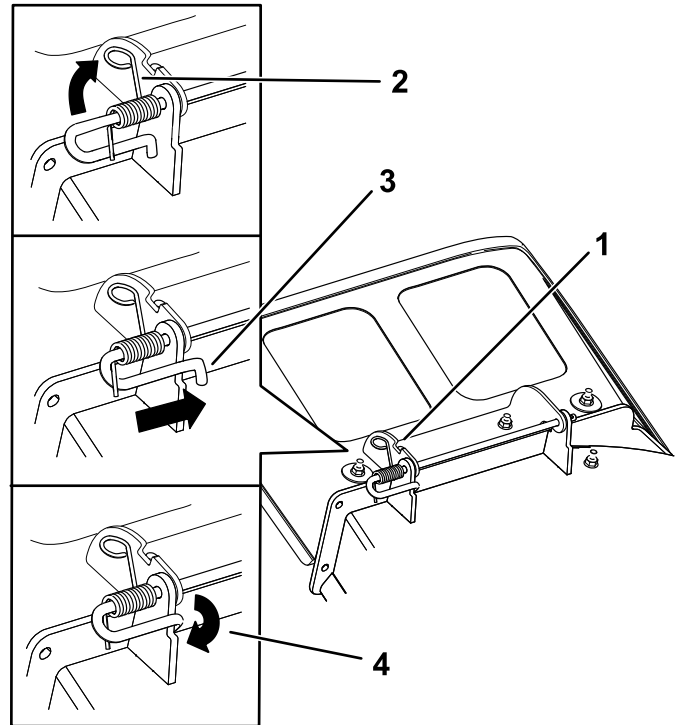

Figure 77
3. Position the new discharge deflector with the bracket ends between the welded brackets on the deck as shown in Figure 77.
5. Position the spring on the rod as shown in Figure 77 so that the shorter spring end comes from under the rod before the bend and going over the rod as it returns from the bend.
6. Lift the loop end of the spring and place it into the notch on the deflector bracket (Figure 77).
7. Secure the rod and spring assembly by twisting it so that the short end of the rod is behind the mower bracket welded to the deck (Figure 77).